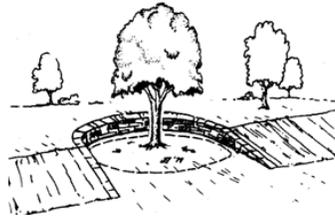

Figure 8. Adding soil while retaining PRZ for established trees.
- If a compaction/flooding **tolerant** species, may successfully add **up to six inches porous fill**. [Figure 8]